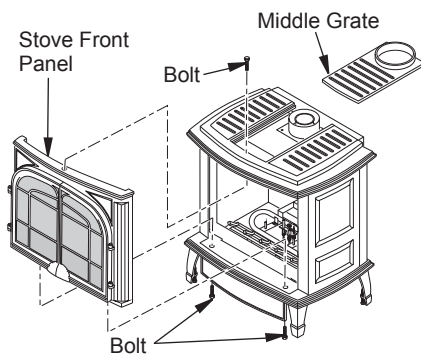

Figure 35 - Removing Front Panel from Stove (Oxford™ Model Shown)
1. If stove front panel is still installed, remove 2 bolts from bottom of stove and one from the top of stove to remove front panel (see Figure 35). For the Oxford stove the middle grate will need to be removed to remove the top bolt.